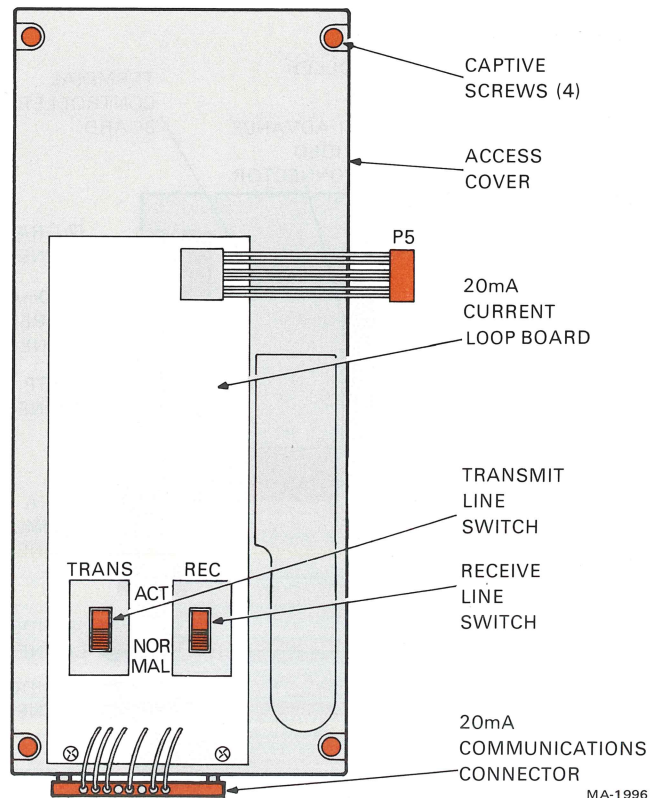

Figure 4-3
6. Set the TRANS switch to the NORMAL position (Figure 4-3). (If the terminal must provide current on the receive line, set the switch to the ACT position.)
7. Set the REC switch to the NORMAL position (Figure 4-3). (If the terminal must provide current on the receive line set the switch to the ACT position.)